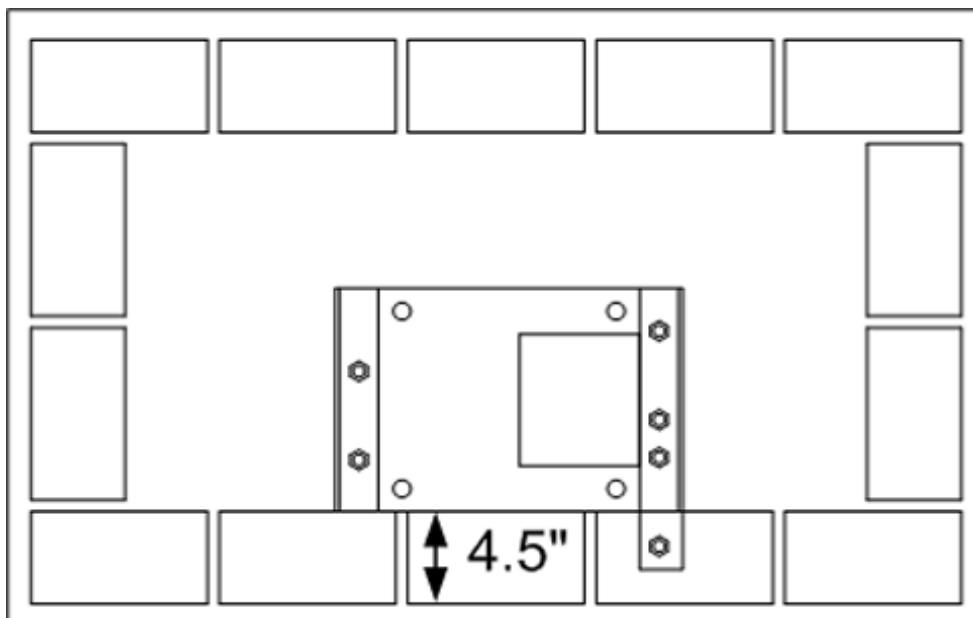
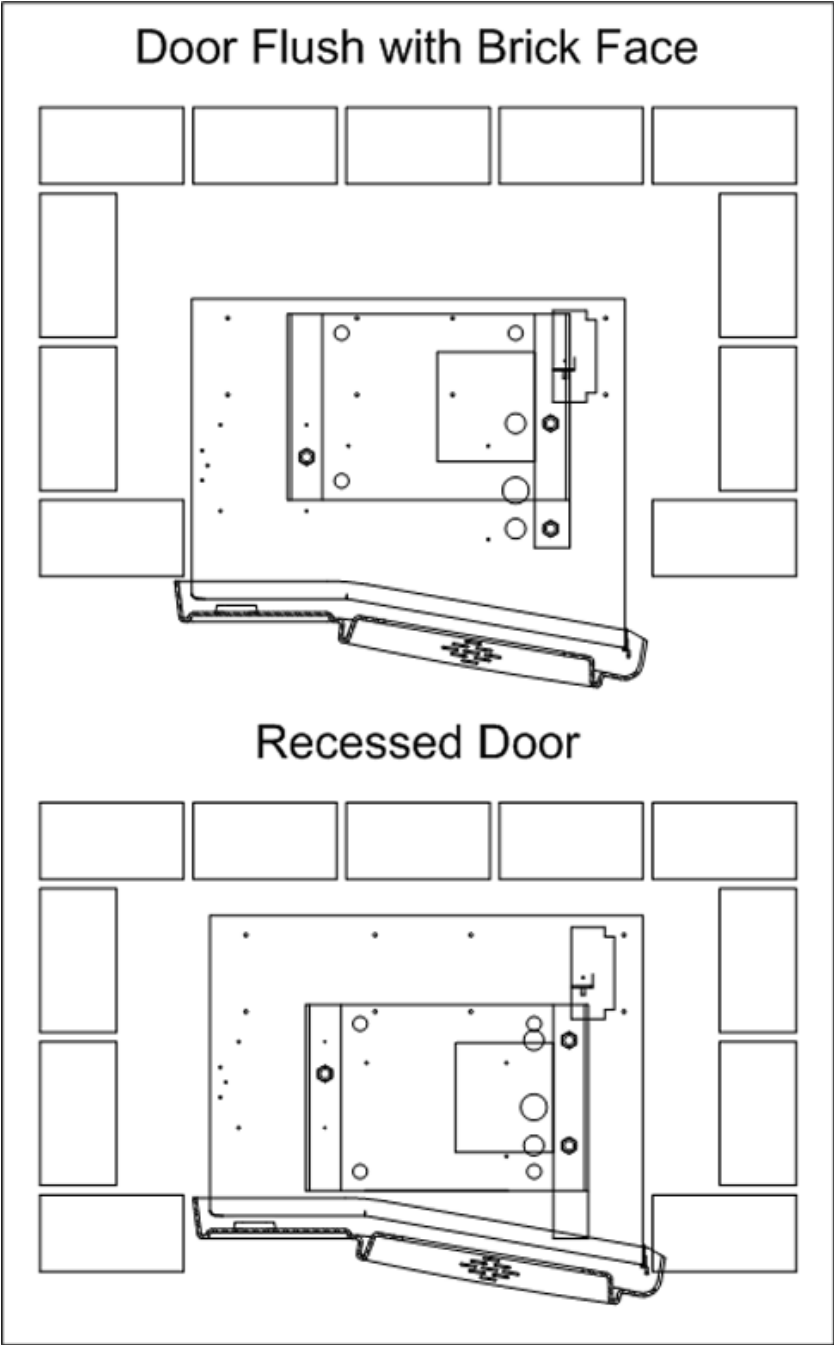

Figure 8. Positioning the Adaptor Plate
Figure 9. Door Positioning Options
The adapter plate should be located so its front edge is recessed 4.50" from the front face of the brick structure (as shown in Figure 8). The adapter plate has (2) sets of mounting holes. One set is used to install the Portal so its front door will be flush with the brick. The other set is used to recess the door within the brick. These (2) mounting options and hole patterns are illustrated in Figure 9 and Figure 10..